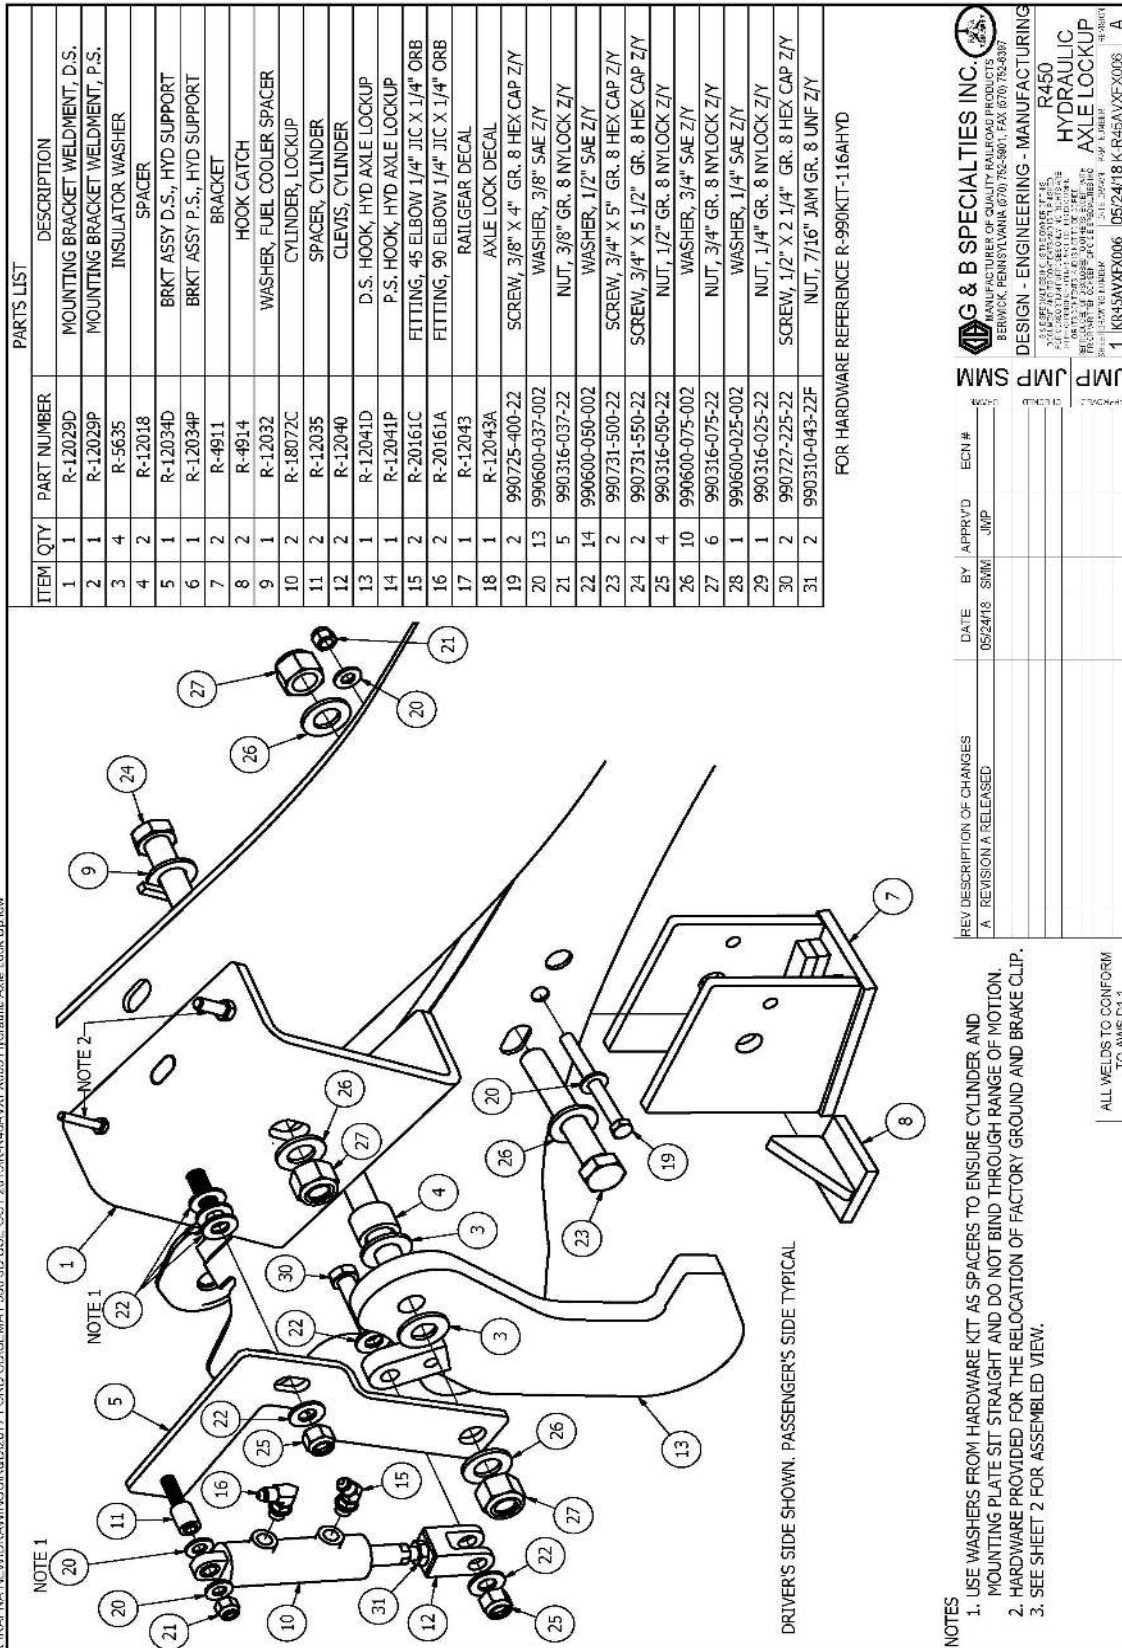

Figure 1
3. Find the slotted hole on top of the frame. Take bracket R-12029D (Driver's Side) and align the locating slug on the bracket with the slot in the frame. When done correctly, slug should drop into the slot on the frame and the bracket sit against the top and outer surfaces of the frame. See (Fig. 1).
4. With the bracket on the frame, center punch the slot on the bracket. Remove bracket and drill a  $49/64$ " hole. Hole should line up with existing square hole where we removed the clip from earlier. Check with supplied  $3/4$ " bolt to ensure bolt sits parallel and is not angled. Hole may need to be reamed to ensure this. The hole on the outside of the frame can also be obtained by drilling the square hole on the inside of the frame through to the outside. The bracket is slotted for this reason, just ensure bolt sits straight and not on an angle. Once hole is in place and bolt sits parallel, re-install fuel cooler leaving out the clip we removed. Install bracket to frame, using R-12032 and  $3/4$ " hardware as shown in Fig. 1. See Fig. 7 for proper install reference. (Passenger side will need the hole drilled through to the inside of the frame. There are no holes present on the passenger side.)
5. On the radius arm you will see a slotted hole with a hole next to it. Take R-4911 and place it on the radius arm with the larger hole in the bracket aligned with the slot, positioned closest to the hole side of the slot. See (Fig.5) Place  $3/4$ " bolt that was supplied through the bracket and radius arm to help hold the bracket, and with the bracket against the bottom of the radius arm, mark the center of the small hole of the bracket on frame. You may also mark the center of the hole on the inside of the frame. Drill a  $13/32$ " hole through the radius arm, or on the inside and outside where marked. With hole drilled, install bracket using the  $3/4$ " and  $3/8$ " hardware supplied in kit. See (Fig.1) for reference. Ensure not to over-tighten bolts and deform the radius arm.
6. Assemble the hook, R-12041D, and bracket, R-12034D, onto the all thread and stud as shown in Fig. 1. If lateral adjustment is required supplied spacer can be trimmed down, or washers can be added into assembly to maintain proper clearance with frame, suspension arm, and hook. Nylock nut should be tightened enough to secure hook, but not hinder it from swinging. (R-12041P and R-12034P will be used on Passenger's Side)